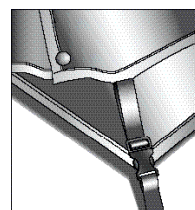

Figure 6: Fly Clip
M. At points 1 through 4 on the inside of the fly there are small side release buckles. Attach these buckles to their mates, points 1-4, on the tent body. At points A, G, J, and C there are 3/4" LadderLocs with adjustable grommets webbing straps. Slip the grommets over the pole ends at these points (Figure 5). Attach the 3/4" side-release "Fly Clip" (Figure 6) buckles at points B and D to their corresponding buckles on the tent body. By first clipping the blue webbing strap on the rainfly to a blue webbing